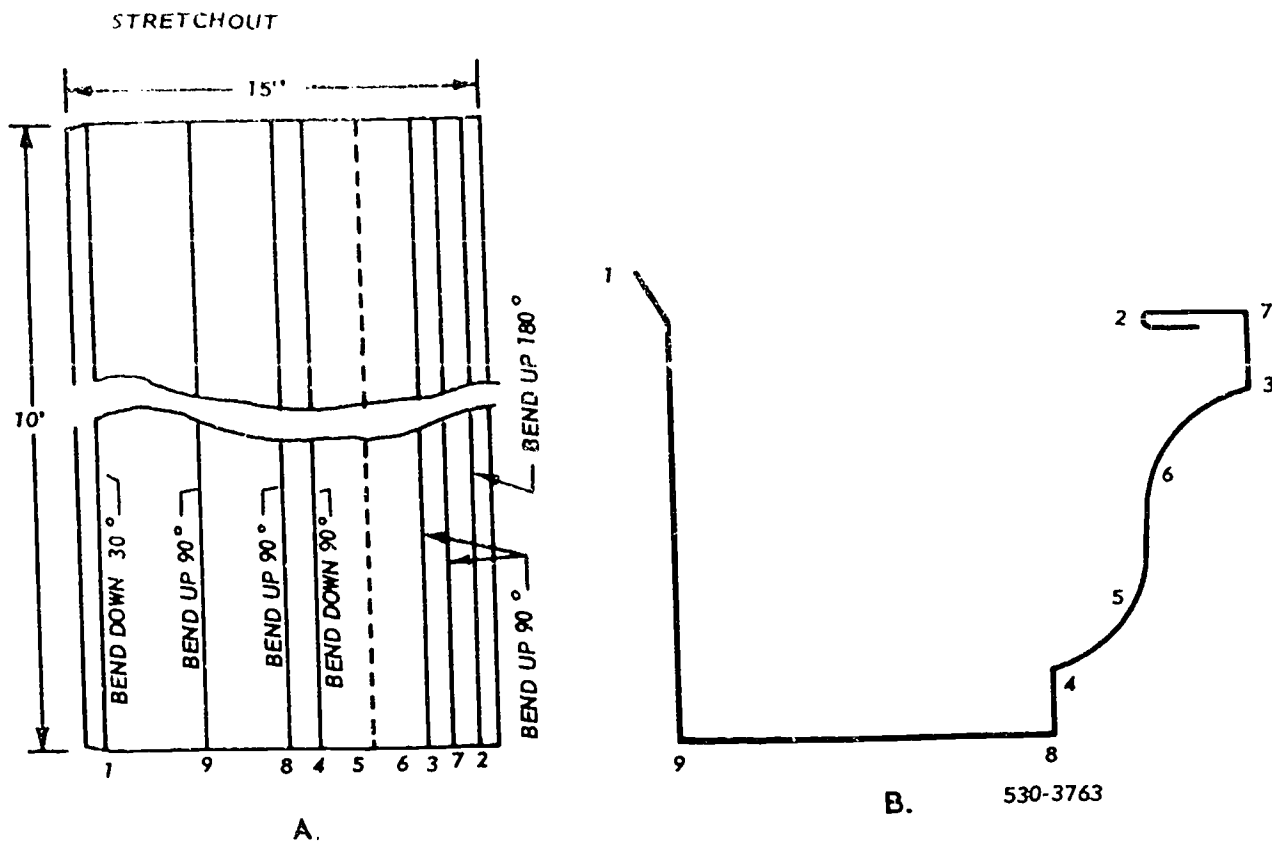

Figure 3-24. Pattern and shape for style K (ogee) gutter.
**Straight gutter.** For this example, assume that you are to fabricate two 10-foot joints of 6-inch ogee box gutter like that shown in figure 3-23. A downspout drop outlet,  $2\frac{3}{8}$ " x  $2\frac{7}{8}$ " x 3" long, is to be made for a  $2\frac{1}{2}$ " x 3" downspout. A 4L"x 10" sheet of galvanized iron will be enough metal to make the gutter and the downspout in this example. First, develop a pattern for the ogee gutter like the one shown in view A of figure 3-24. Since the length of the sheet is 10 feet and the pattern is 10 feet, the 15-inch stretchout should be cut lengthwise from the sheet. Notice in view B of figure
With the pattern made and the cornice brake adjusted, you are ready to form the ogee box gutter. Make the bends in the order shown in figures 3-24 and 3-25. Place the metal in the brake and make the No. 1
**Slip joints.** The next component to fabricate is a slip joint (see view D of fig. 3-27). The outside piece shown in view A has the same shape as the gutter shown in figure 3-24, but remember to measure the stretchout dimensions on the *outside* of the gutter. This outside piece of the slip joint is only 2 ½ inches wide. It is formed on the cornice brake like the long joints, except for the curved bends. Since the material is only 2 ½ inches wide, these bends can be made on the conductor stake by hand pressing. Make the inside piece of the slip joint (view B of fig. 3-27) by using the *inside* measurement of the gutter to make a stretchout pattern 2 ½ inches wide. Notice that this piece has neither the ½-inch flange nor the hem that piece A does. This piece can also be formed on the cornice brake and conductor stake. Make the ½-inch-wide spacer (view C) from 16-gage metal, to allow for the sealant and to give sufficient room for a slip joint. Form the spacer just like piece B. After you make the three pieces, assemble them by riveting or by spot welding.